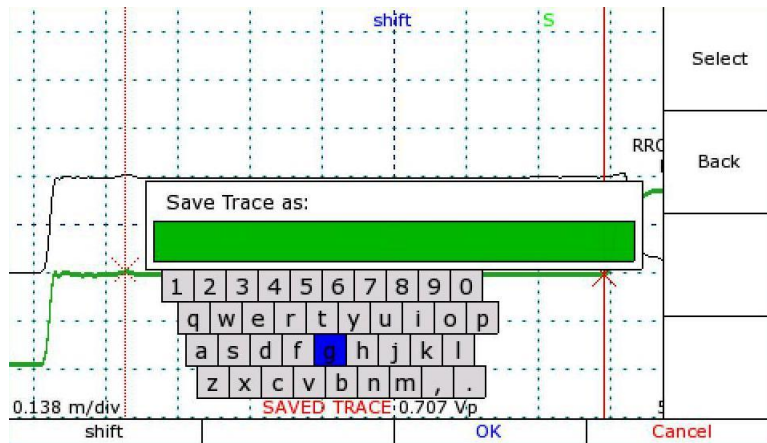

Figure 27: Using the on-screen keyboard.
- 6) Use the *M-FUNCTION* knob and the *Keyboard* menu to select letters and numbers. See Figure 27. Also see *Navigating dialog boxes* on page 14 for more information on using the *Keyboard* menu. Press the *Select* option to enter the highlighted letter into the name. A USB keyboard can also be used.